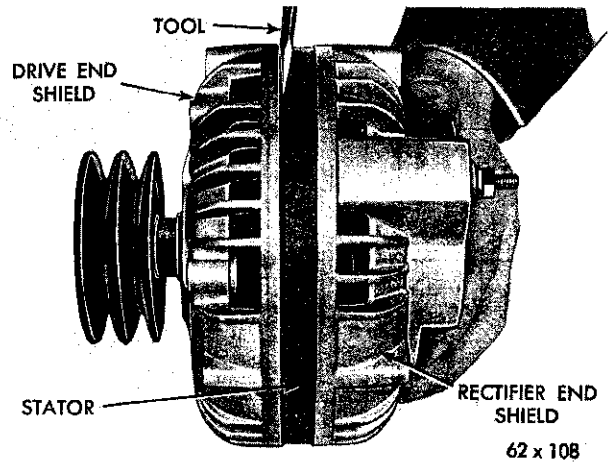

Fig. 14—Separating the Drive End Shield from the Stator
(3) Remove the through bolts and pry between the stator and drive end shield with the blade of a screwdriver (Fig. 14). Carefully separate the drive end shield, pulley and rotor assembly away from the stator and the rectifier shield assembly.